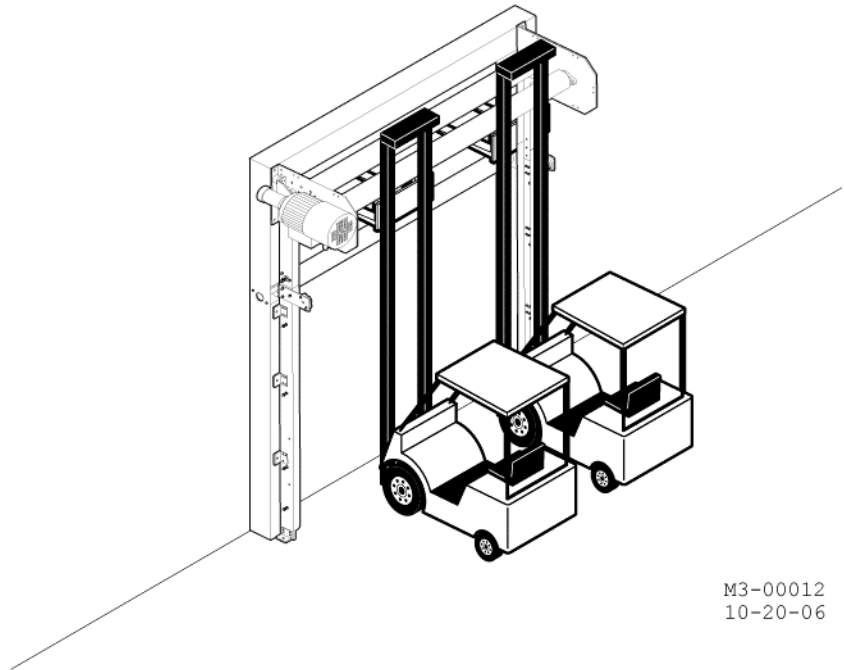

Figure 2-13: Placing the Unit Against Door Opening
2. Place the door against the level and plum fore frame while checking the levels (drums, side guides, and side plates). See Figure 2-13.